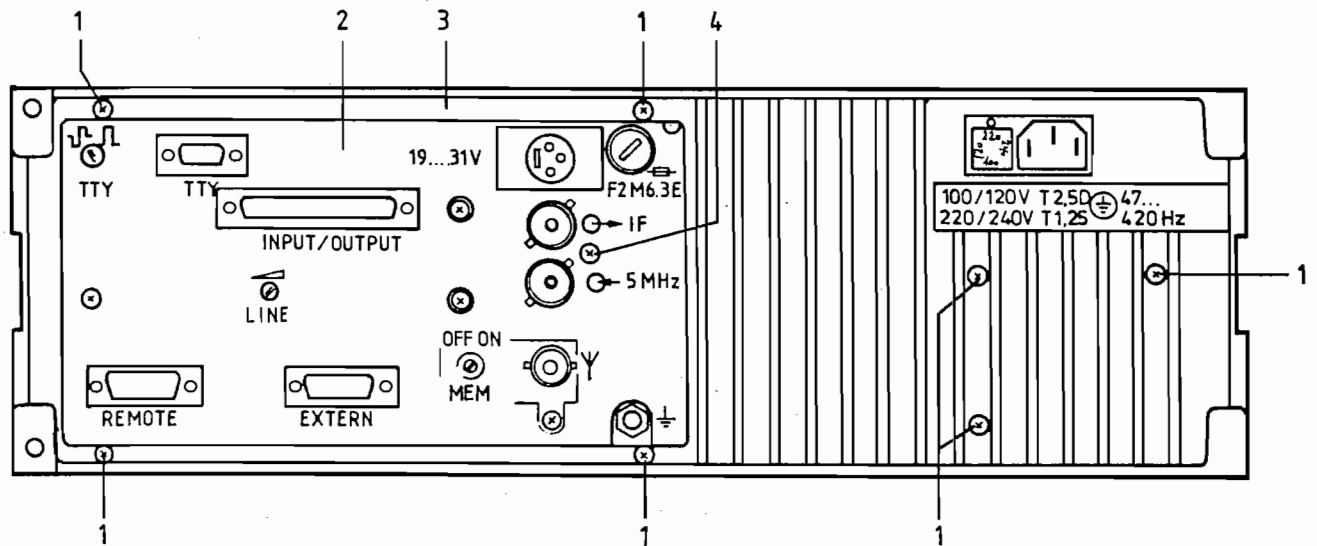
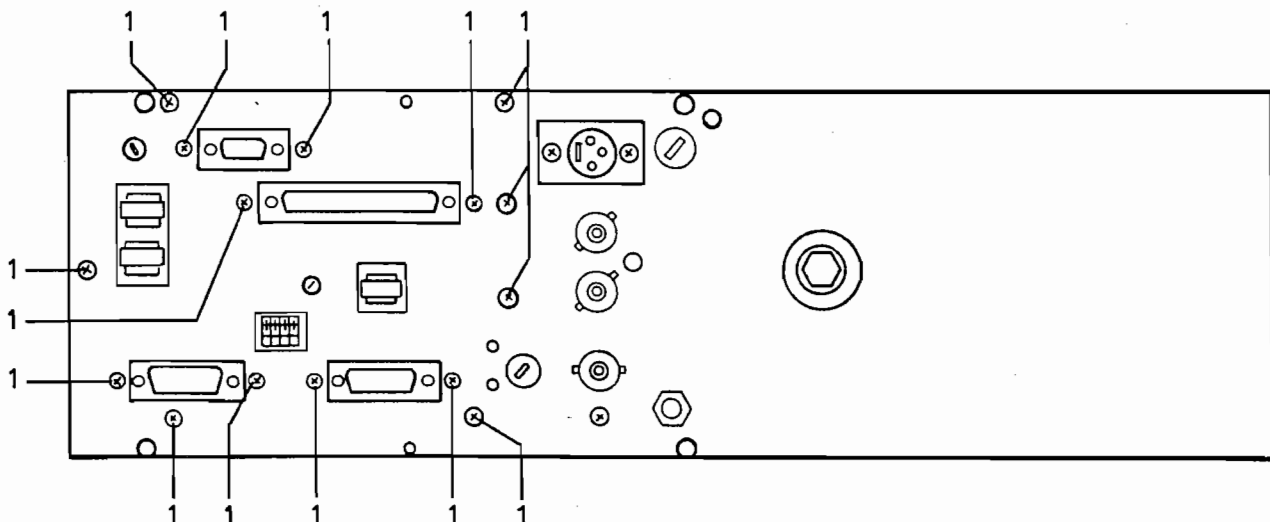

Fig. 6.3 Rear View of Power Supply/EMC Filter IN 085P1
Fig. 6.4 Rear View without Cover Panels
1. Undo two screws (4 and 5, Fig. 6.3) and remove cover panel (2).
2. Undo seven screws (1) and remove frame with heatsink (3).
4. Undo 15 screws (1, Fig. 6.4) and remove filter board with filter.